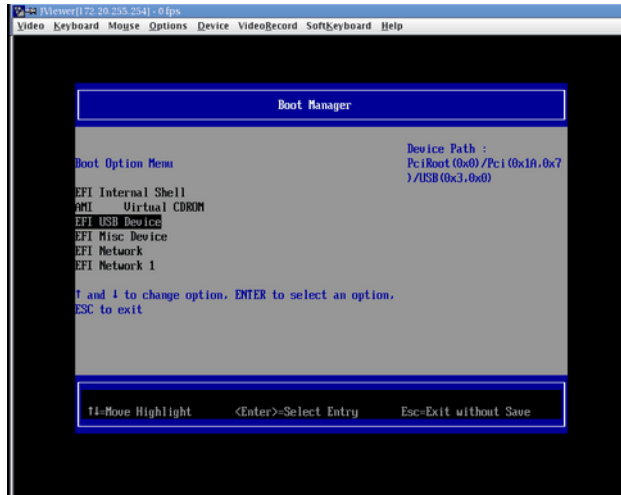

Figure 3-19 Boot Manager Screen
5. From the **Boot Manager** screen, select **EFI USB Device**, as shown in Figure 3-19 on page 54.